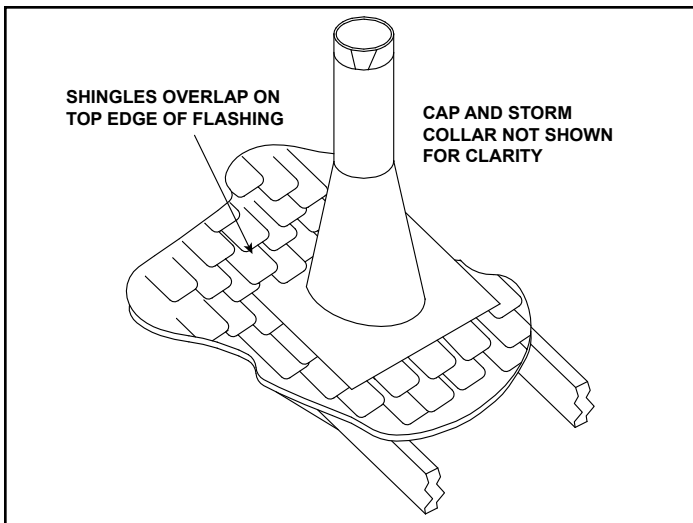

Figure 5.13
6. Slip the flashing over the pipe section(s) protruding through the roof. Secure the base of the flashing to the roof with roofing nails. Ensure the roofing material overlaps the top edge of the flashing as shown in Figure 5.13. Verify that the chimney is the required height above the roof. See roof pitch table, Figure 4.2.